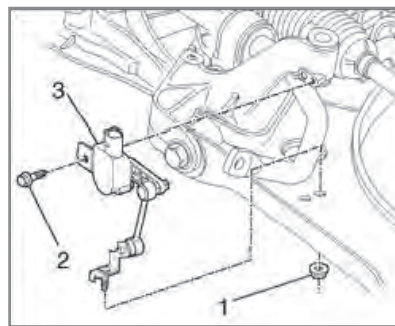

fig. 2
*If the vehicle is equipped with Automatic Headlight Vertical Aim Control, detach the unit from the lower control arm (Fig. 2 - part 1) to prevent overextension.*